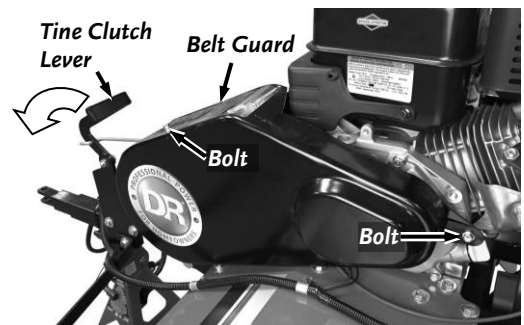

Figure 23
1. Remove the two Bolts from the top and rear of the Belt Guard using a 3/8" Socket and remove the Belt Guard (**Figure 23**).